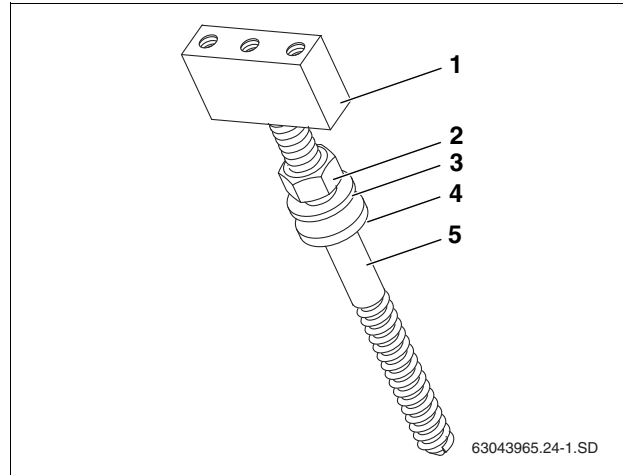

Fig. 20 Installing the hanger bolt – sequence
- When installing the hanger bolt, note the sequence of the individual parts (Fig. 20).
- Install the stud (Fig. 20, [5]) as far as it will go into the attachment block (Fig. 20, [1]).